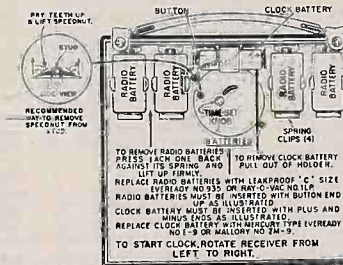

FIG. 1 - BATTERY & CLOCK INFORMATION
- Replace "C" batteries as shown in fig. 1, page 2. Use Eveready #935, Ray-O-Vac #1LP, or equivalent.
- Remove two (2) screws from rear flap of cabinet.
- Replace mercury "A-A" battery as shown in fig. 1, page 2. Use Eveready #E-9 (mercury), Mallory #ZM-9, or equivalent.
- Pry speednut teeth up and lift off from stud. (See Fig. 1, Page 2).